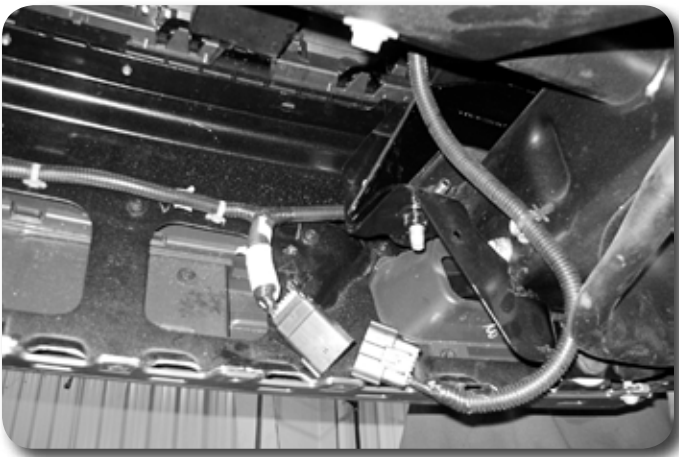

Figure 6
7. Disconnect the main fog light wiring connector. Figure 6